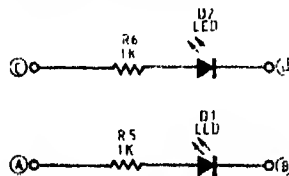

Fig. 2: Optional two LED display.
with approximately 2 Hz frequency. So, the output LED D1 (as shown in Fig. 2) blinks at a rate of 2 Hz if the IC 555 inserted in the socket works well.
This output at pin 3 is also given through a DPDT switch to the pins 2 and 3 of IC 741 op-amp. The switch S2 selects the inverting or non-inverting input of the IC2. In this way the LED D2 (Fig. 2) also blinks at a 2Hz rate if the IC2 (741) inserted is OK.
Both, the two LEDs and digital display options are given in Fig. 2 and Fig. 3 respectively.